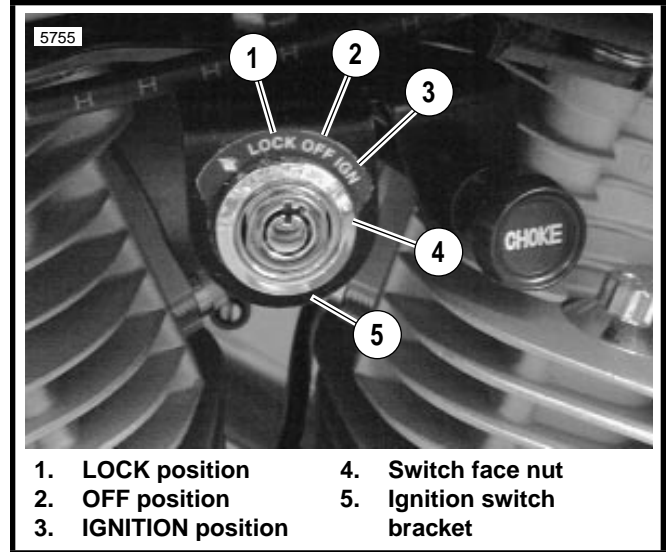

Figure 7-5. Ignition/Headlamp Switch
See Figure 7-5. The three-position combination ignition/headlamp switch is not repairable. Replace the unit if it fails.
5. See Figure 7-5. Remove ignition switch face nut.